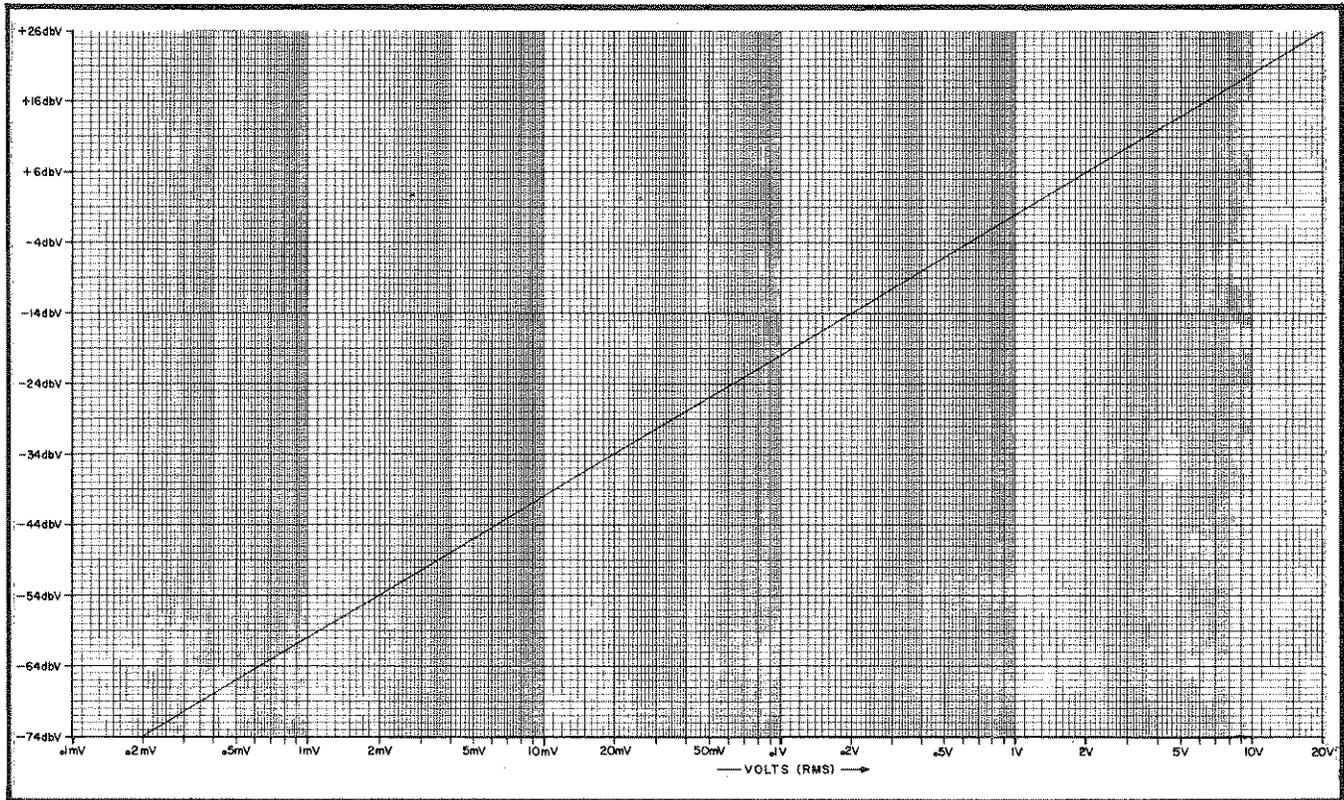

Figure 3-6. dBV to Volts Conversion.
**3-44. Log A and Log B Measurements.** The single channel amplitude functions, A or B, permit direct measurement of either input level in dBV. These readings can be converted to ac volts using the graph shown in Figure 3-6. To measure the level applied to either input channel, proceed as follows:
- If desired, convert the dBV reading to rms volts using the graph shown in Figure 3-6.